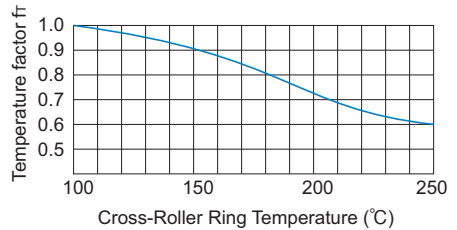

Fig.1 Temperature Factor (fT)
- fT** : Temperature factor (see Fig. 1)